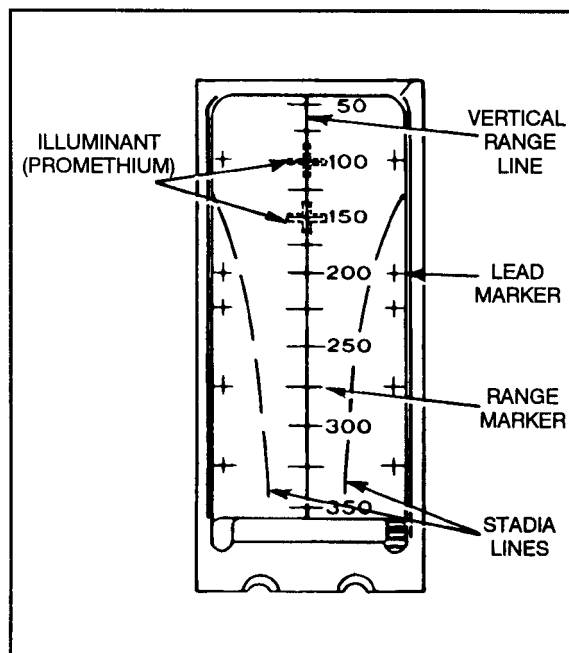
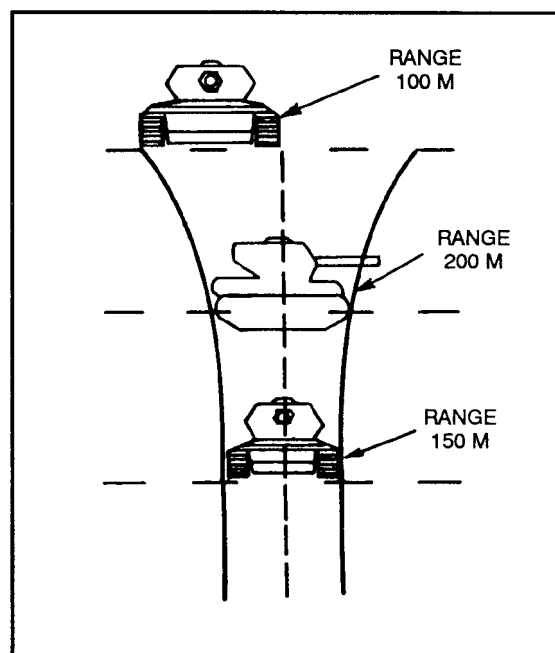

Figure 2-12. M72A1 reticle.
Figure 2-13. Using M72A1 stadia lines to engage targets.
(4) Use the M72A1 reticle to estimate the range to a 20-foot target such as a tank viewed from the side (Figure 2-12). Place the sight so that the rear and front of a flanking target fit between the curved vertical lines (Figure 2-13). When you read the range from the scale, note that the width of the tank is about one-half the tank's length. This means you can estimate the range to a target, whether it is headed straight toward you or straight away from you, by placing its sides between the curved vertical lines and halving the range shown at that point. The bottom of each vertical line in the center of the reticle corresponds to an additional 25 meters. The length of a horizontal line represents 5 mils, and the spaces between lines represent 5 mils.